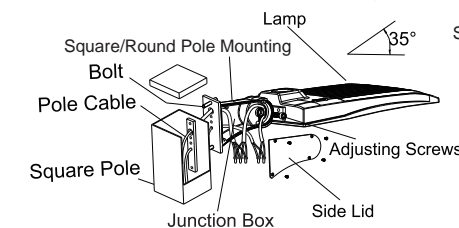

Figure 11
- Step 1: Fix the mounting to the pole with bolt, open the side lid of the mounting, pull the wire into junction box, and connect the wire correctly. (Figure 11)
Notice: Adjustable angle is 0-35° (Figure 11).